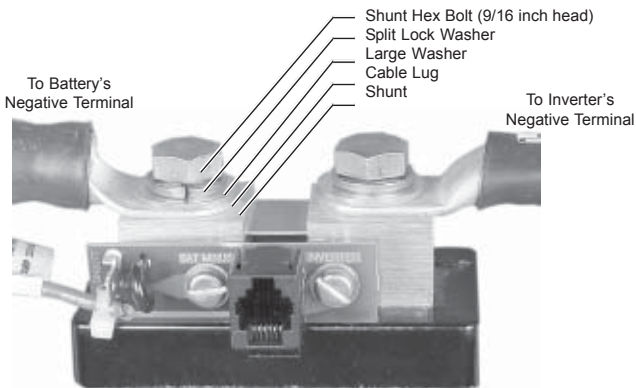

Figure 2-7
- Connect the cables and hardware to the shunt as shown in Figure 2-7.